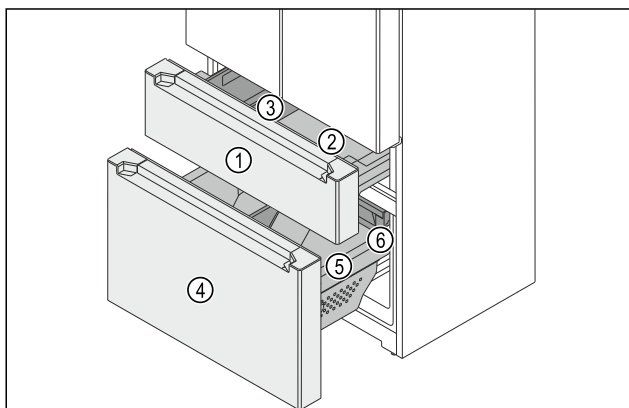

Fig. 147 Freezer section pull-out carts
- (1) Top pull-out cart
- (2) Container
- (3) FlexBox
- (4) Bottom pull-out cart
- (5) Container
- (6) Drawer
The freezer section consists of two pull-out carts. The top pull-out cart Fig. 147 (1) has one container Fig. 147 (2) and one FlexBox Fig. 147 (3). The bottom pull-out cart Fig. 147 (4) has a larger container Fig. 147 (5) and a drawer Fig. 147 (6). You can remove the FlexBox and the container in the top pull-out cart for cleaning.